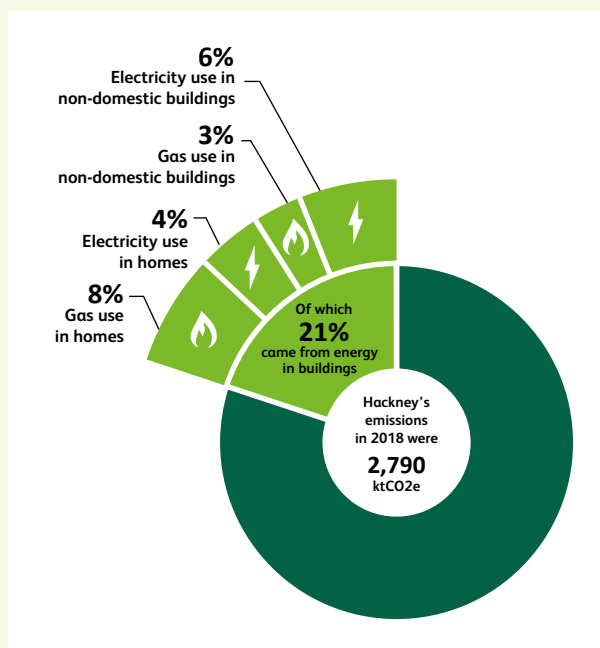

Figure 1.1 – Hackney Climate Action Plan Emissions breakdown.
1.9 It is estimated that more than 80 %1 of the buildings that will exist in 2050 already exist. Hackney's built environment creates 21 %2 of the borough's greenhouse gas emissions, with 11 % arising from gas use in buildings, as shown in Figure 1.1 below. The need for retrofit is urgent, with the impacts of Climate Change already being felt. Retrofit offers valuable opportunities to enhance internal building conditions. It is therefore essential to adapt existing buildings to not only reduce energy consumption and to decarbonise emissions, but to improve indoor environments whilst addressing climate risks and supporting healthier, more resilient places for people.